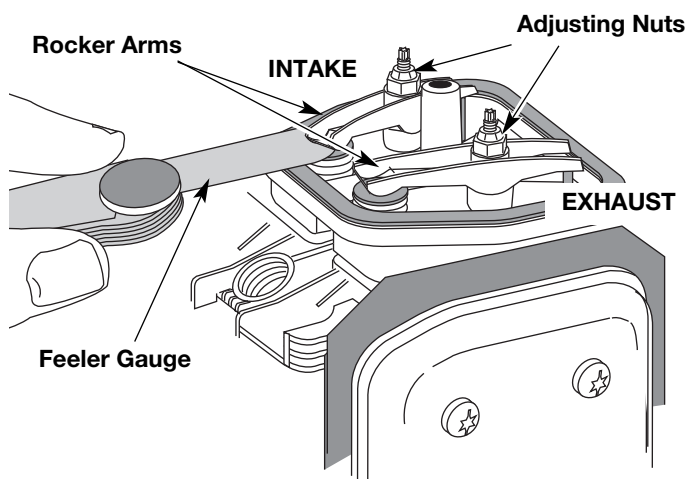

Fig. 38
9. Slide the feeler gauge between the rocker arm and the valve return spring. Measure the clearance between the valve stem and rocker arm (Fig. 38). Measure both the intake and exhaust valves.
The recommended clearance for both intake and exhaust is .003 – .006 in. (.076 – 0.152 mm). Use a standard automotive .005 in. (0.127 mm) feeler gauge. The feeler gauge should slide between the rocker arm and valve stem with a slight amount of resistance, without binding. See Figures 38 and 39.